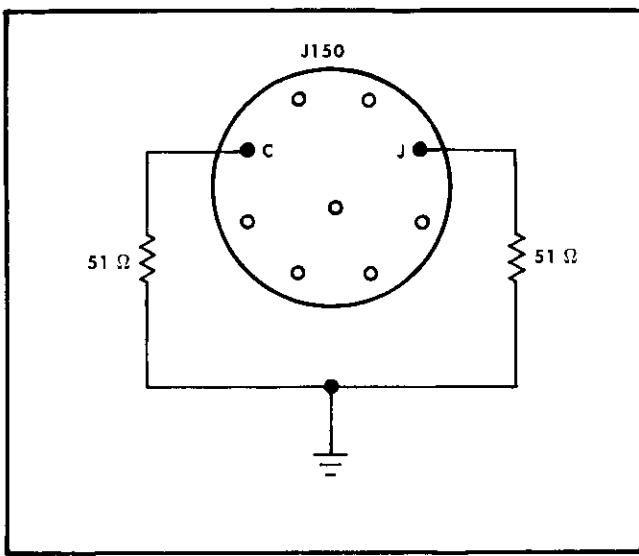

Fig. 4-1. Test setup for checking amplifier DC and low-frequency response.
2. Disconnect the Probe's Amphenol connector from the Amplifier (or the 1A5). Then connect two  $51\ \Omega$  resistors between ground terminals C and J of J150, as shown in Fig. 4-1. Be careful not to contact other terminals of J150; as much as 100 V may be present on them.